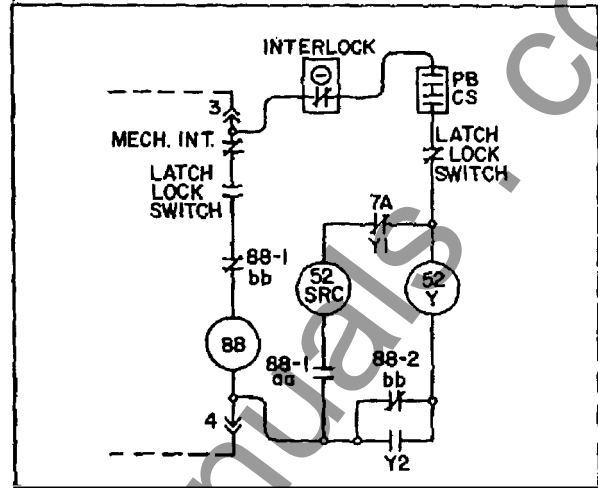
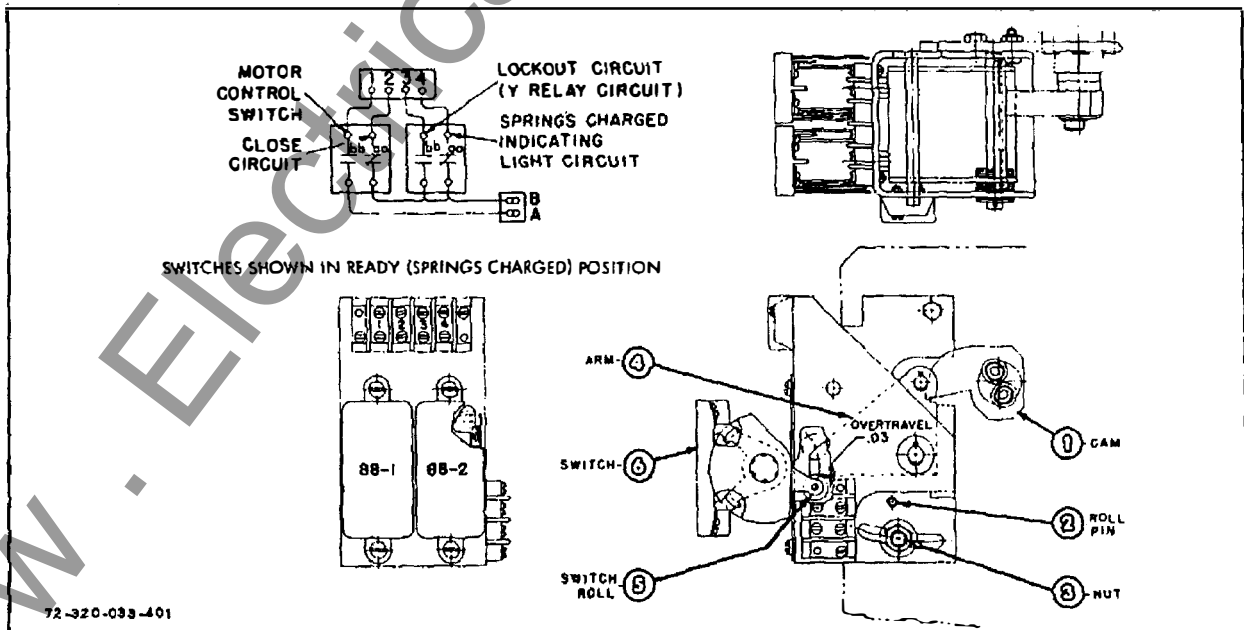

Fig. 9 - Control scheme for stored energy operator.
Fig. 10 - Motor control switch assembly for stored energy operator.
The normal control (Fig. 9) for this operator has been incorporated in one switch assembly located at the rear of the unit. It consists of two-heavy-duty toggle switches (6) operated by common linkage (4) from the main charging cam (Fig. 10).
The normal control for the stored energy operator is incorporated into one switch assembly (Fig. 10) located at the rear of the unit. It consists of two heavy-duty toggle switches (6) operated by a common linkage (4) from a motor switch cam (1) on the main charging cam shaft.